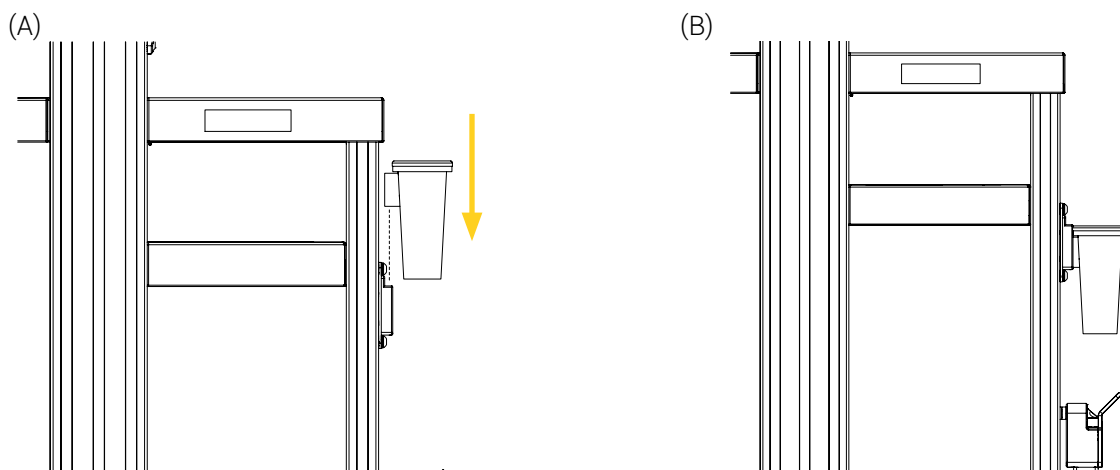

Figure 18: Installation of the Serres suction canister
5. Insert the built-in bracket of the suction canister in the adapter (Figure 18).